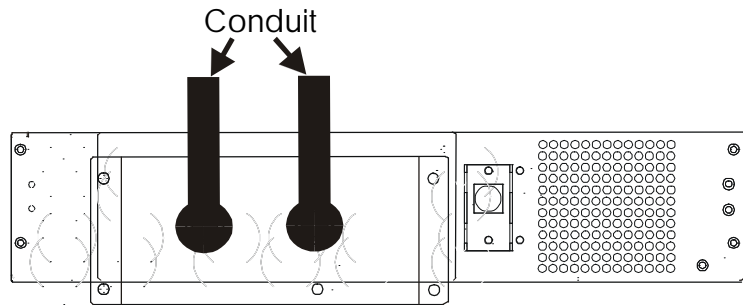

Figure 3.4 Re-install Plate to unit for inspection
- Strip the wire conductors so that 3/8" of bare wire is showing. Connect the wire conductors to the terminal blocks as shown in Fig 3.3. Refer to Figure 3.4 for appropriate wiring points.
- Once the connections have been made to the terminal blocks, place the panel back up to the unit. Leave the panel unsecured so that the wiring can be inspected, see Fig. 3.4.